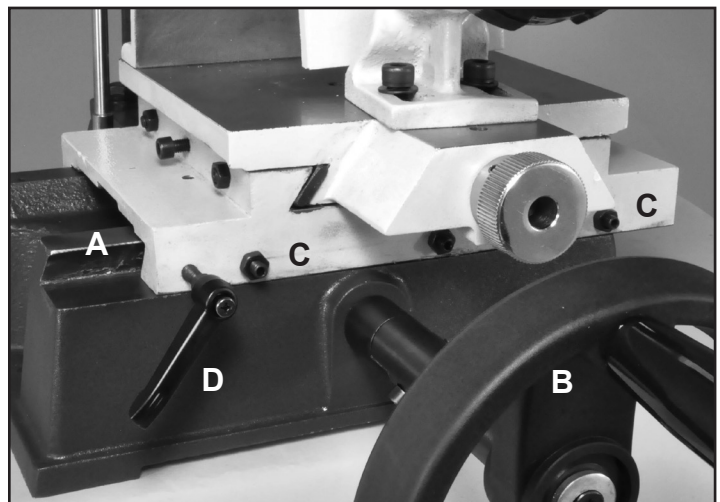

FIG. 13
The lower supporting Sliding Plate (#52) adjusts the top table left and right on a separate set of dovetail ways. FIG. 13, A. The front Hand Wheel (#33) (B) controls the side-to-side table movement.
1. To tighten or loosen the movement of the sliding plate, pressure on the dovetails can be adjusted with the 3 Screws and Nuts (# 47, 48) that are located in the front of the sliding plate. FIG. 13, C. These put pressure on the Drift Plate (#24) which rests against the plate's dovetails.
2. To secure the sliding plate in one spot so that it will not move, the Handle Screw (#49) (D) can be fastened down. This is recommended for repetitive drilling in a single location on multiple work pieces.